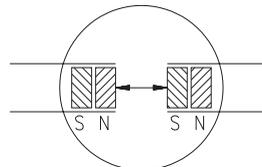

Fig. 16: Determination of the pole position. Joining the magnetic strip
- Check polarity before joining the two parts. Both ends must attract each other (if necessary, use compass needle). In case both ends have the same polarity, shorten one end by a half pole division (fig. 16).